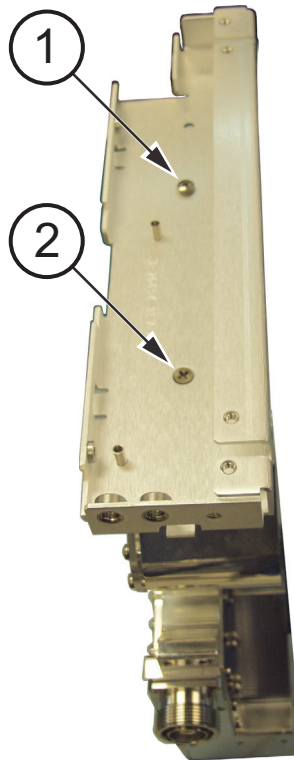

Figure 5-35. Left Filter Bracket
2. Turn the filter on its side and attach the left filter bracket. Use 1 screw, size M4, 8 mm, pan head (item 1 in Figure 5-35).
3. If the model is MW82119B-0700, then an extra flat head screw is used, size M4, 10 mm, flat head (item 2 in Figure 5-35).